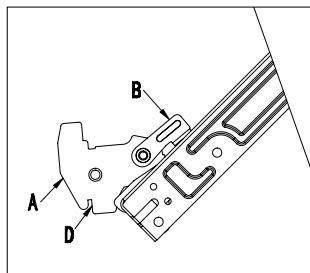

Fig.11-1
- › Open the door completely and lift the 2 levers "B" (fig.11-1);